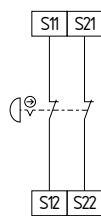

Fig. 8
**Dual-channel emergency stop circuit with command devices to DIN EN ISO 13850 (EN 418) and EN 60947-5-5 (Fig. 8)**